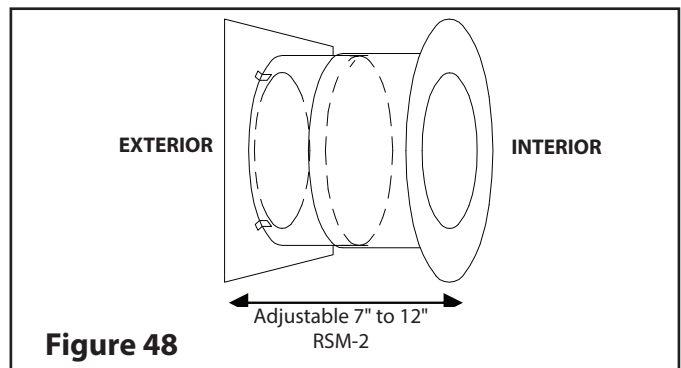

Figure 48
Step 2. Wood walls: Place the exterior half of the Wall Thimble (RSM-2) in the opening from the outside. Nail in place using (4) 2" nails or 1" screws. This Wall Thimble is adjustable from 7" to 12" (see **Figure 48**). Make sure the insulation pad is cut to the desired length according to the wall thickness. Place the interior half of the Wall Thimble inside the exterior half of the Wall Thimble. For a wall requiring more than 12", a shield extension can be field fabricated using galvanized sheet metal 26 gauge minimum.